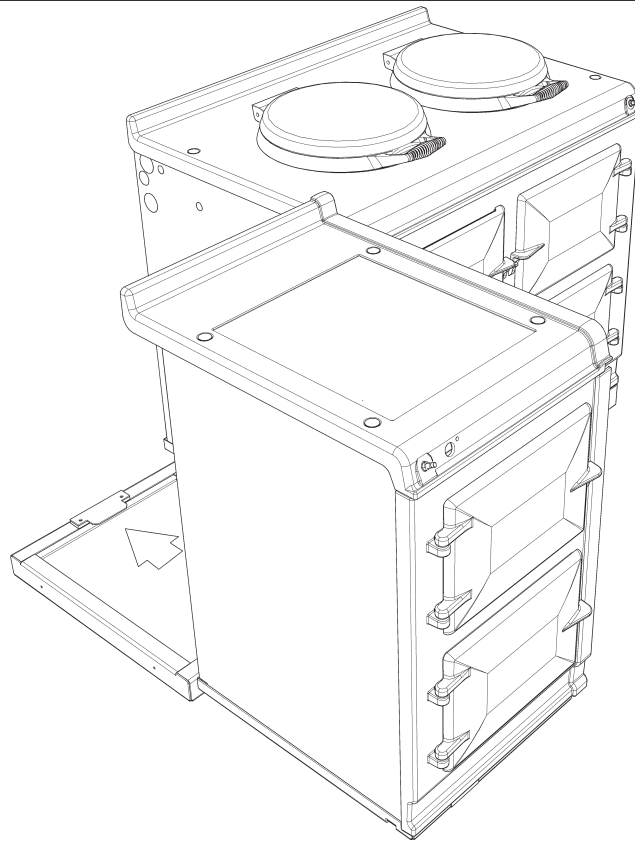

Fig. 13
6. Slide hotcupboard onto plinth until rear tongue bracket engages fully into rear of base slot, (See Fig. 13). Ensure the appliance is aligned squarely with the plinth then proceed to engage the front tongue bracket into the slot on the underside of the base plate. Once satisfied that the front tongue bracket is engaged fully lock it into place by tightening the two M6 screws fully. Ensure that the electrical cable does not come into contact with oven vent pipe from the AGA TC3.